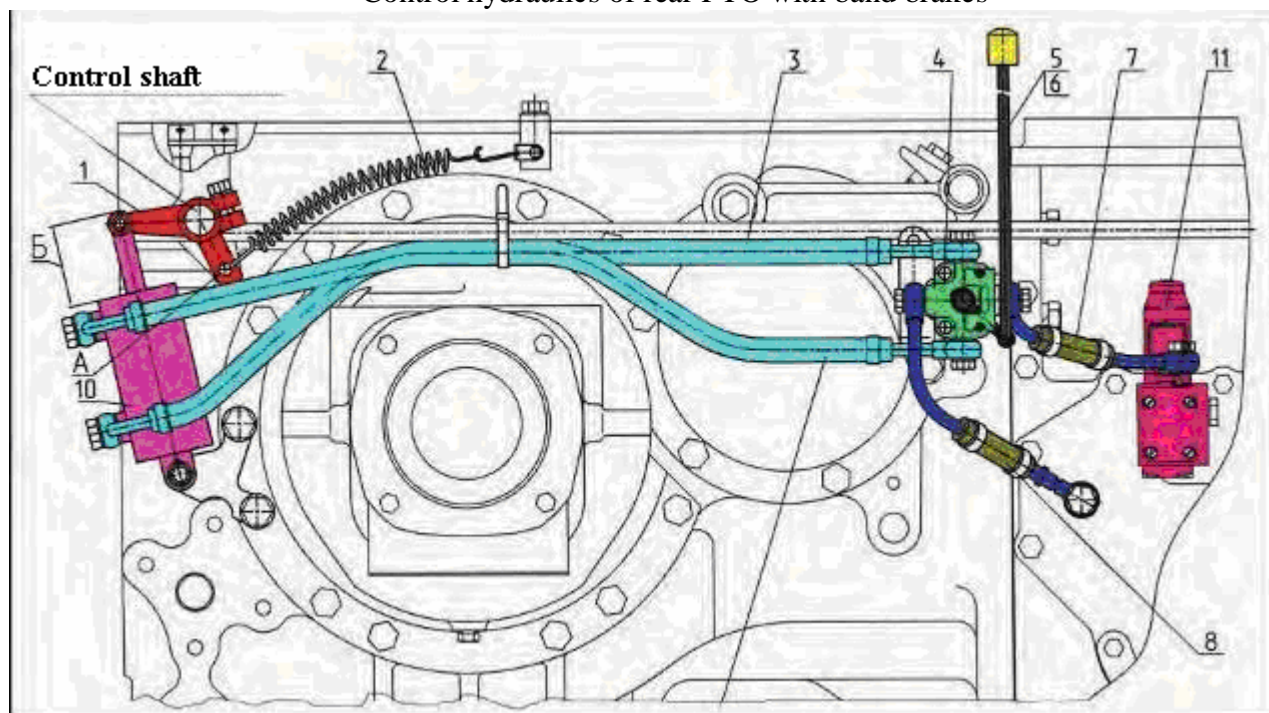

Figure 6.5
6.5.1 POSSIBLE FAILURES OF PTO WITH BAND BRAKES (fig. 6.5, 6.6)